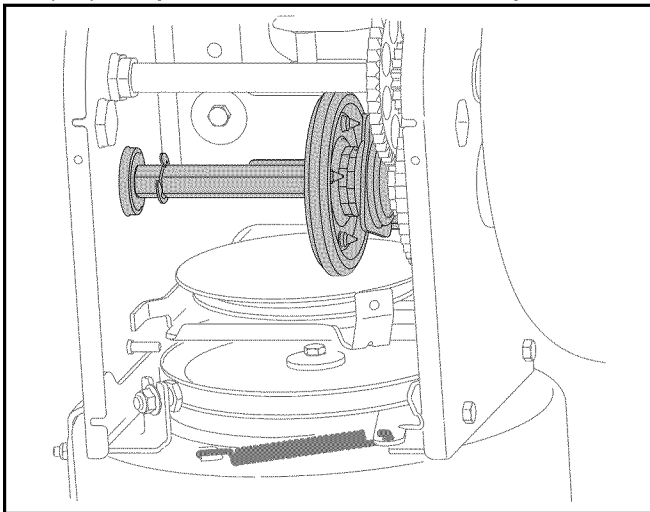

Figure 9
- Apply a light coating of an all-weather multi-purpose grease to the hex shaft. See Figure 9.